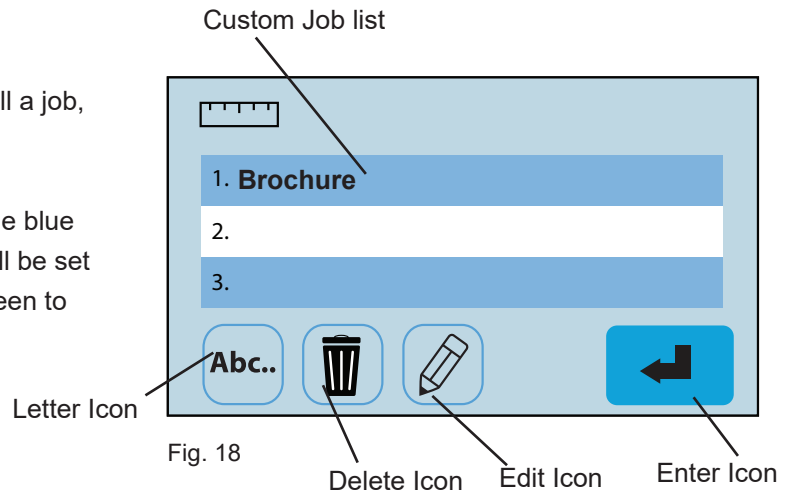
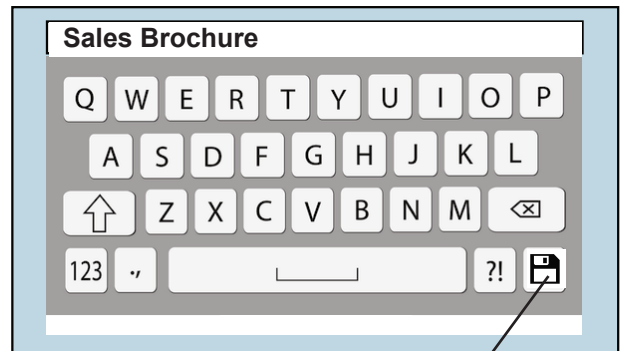
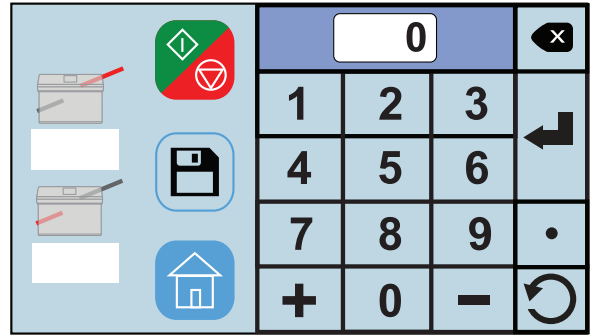

Fig. 18 Letter Icon Delete Icon Edit Icon Enter Icon
Fig. 19 Save icon
Fig. 21
To recall, select the job from the list and press the blue enter button  (Fig. 18). The fold tables will be set and the control panel will return to the home screen to start processing the job.
3. To rename a job, select the job from the list and press the letter icon  (Fig. 18). Use the keypad to change the name and press the save icon in the lower right corner (Fig. 19).
5. To edit a previously saved job, select the job from the list and press the edit icon  (Fig. 18). From the fold setup screen use the same process as setting a custom fold (page 9) to edit the job settings (Fig. 21). See page 10 for measuring guidelines.